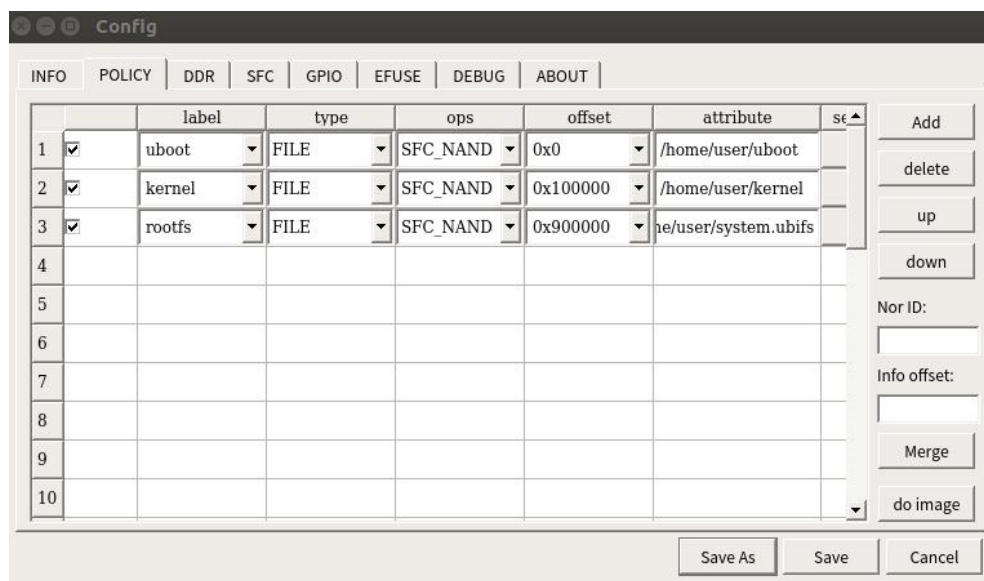

Figure 4-3
4、Configure the image file path, click POLICY to configure accordingly. Set the corresponding paths of the uboot, kernel and rootfs image files in sequence (the file names are uboot, kernel, system.ubifs respectively), and click the corresponding setting to select the file. For configuration, please refer to Figure 4-3.